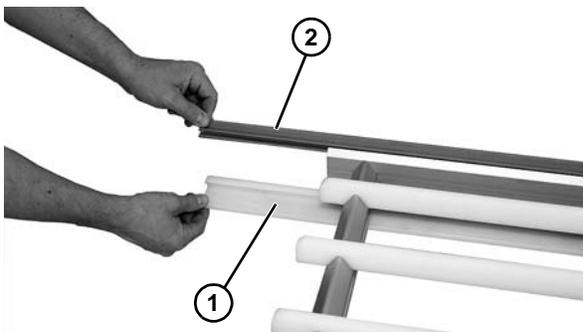

Figure 30
2. Slide lower wear strips (Figure 30, item 1), and side wear strips (Figure 30, item 2) from frame assembly.